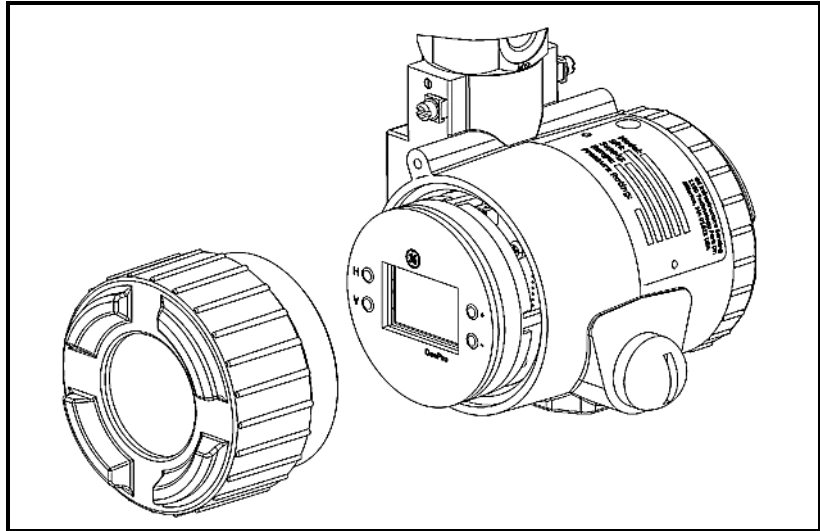

Figure 4-1: Dewpro with Display
1. Unscrew and remove the protective windowed lid from the DewPro (as shown in Figure 4-1 above), exposing the display module below. The buttons **V**, **H**, **+** and **-** are now accessible.